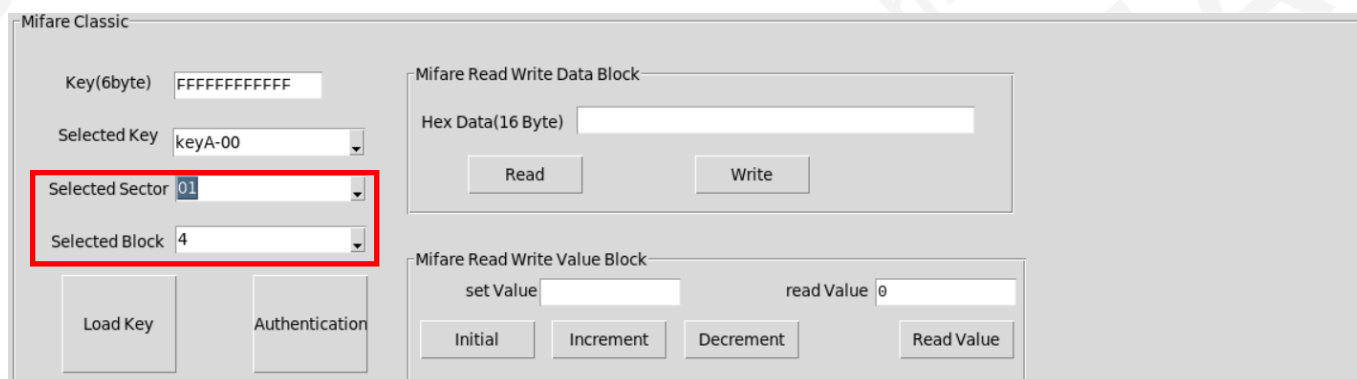

Figure 6.3-2. Select the block address to be accessed
5. Click “Selected Sector” and “Selected Block” drop-down list to select the block address to be accessed, as shown in Figure 6.3-2.